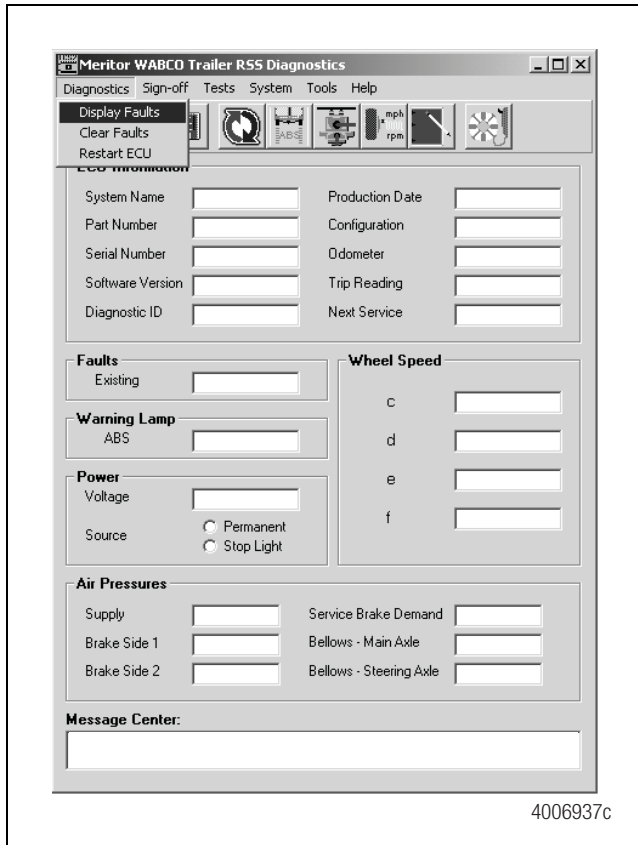

Figure 5.7
1. From the main screen of the Meritor WABCO trailer EBS diagnostics software, select **Diagnostics** from the top menu bar. Figure 5.7.